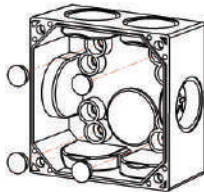

Figure 6
10. Once all connections are complete, replace and fasten the front cover using the included screws and screw caps (refer to figures 6 & 7)